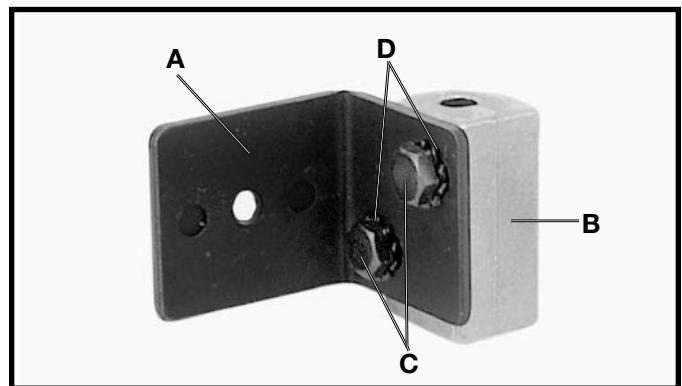
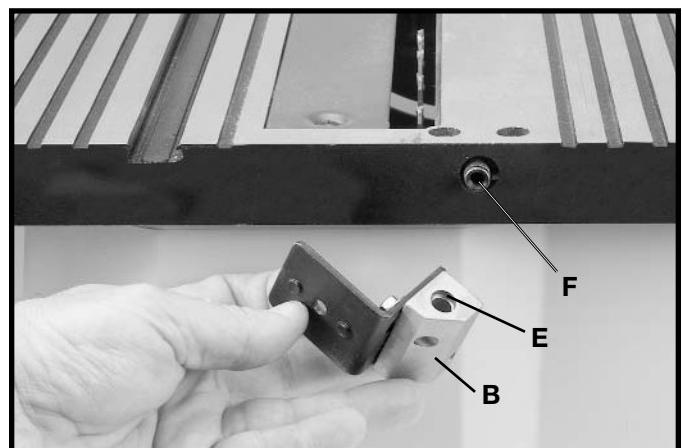
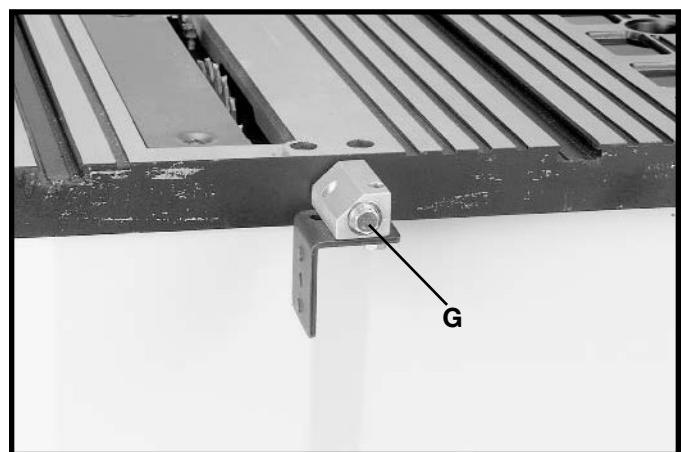

Fig. 9
Fig. 11
Fig. 12
4. Fasten the splitter support bracket (A) Fig. 9, to splitter bracket (B) using two 1/4-20x1/2" hex head screws (C), and two 1/4" external tooth lockwashers (D) as shown. **NOTE: Do not completely tighten screws (C) at this time.**
6. Position recessed end (E) Fig. 11, of splitter bracket (B) against end of pivot rod (F) and fasten in place using the 1/4-20x2½" hex head screw (G) Fig. 12, 1/4" internal tooth lockwasher, 1/4" flat washer and 1/4" external tooth lockwasher which were assembled to screw (G) in **STEP 5. NOTE: Do not completely tighten screws (C) Fig. 9 at this time.**